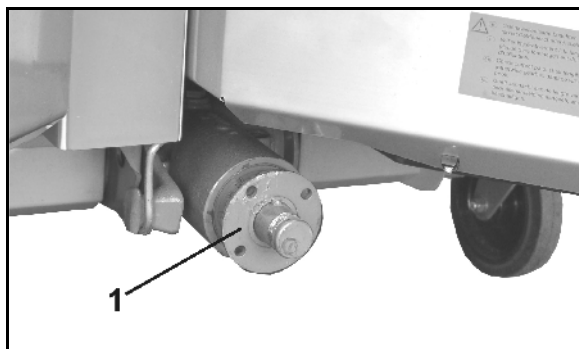

Fig. 35
1. Use an extractor to pull the flange bushing (Fig. 35/1) from the gearbox input shaft.